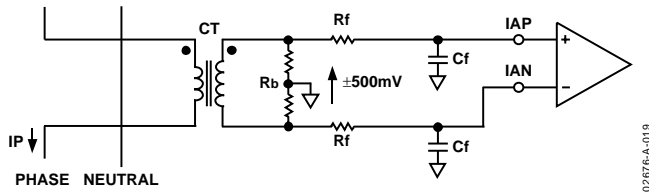

Figure 19. Typical Connection for Current Channels
Figure 19 shows a typical connection diagram for the current channel (IA). A current transformer (CT) is the current transducer selected for this example. Notice the common-mode voltage for the current channel is AGND and is derived by center tapping the burden resistor to AGND. This provides the complementary analog input signals for IAP and IAN. The CT turns ratio and burden resistor R_b are selected to give a peak differential voltage of ± 500 mV at maximum load.